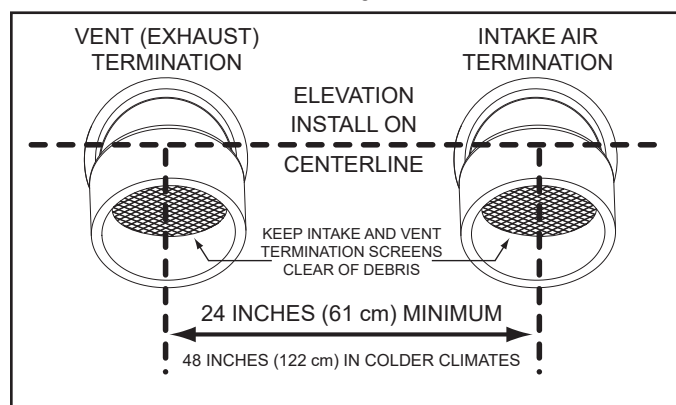

**Figure 34. Sidewall Termination - Direct Vent**
4. If installing both an intake-air and vent termination in a direct-vent configuration through a sidewall, there must be a minimum of 24 in (61 cm) separation, measured on a vertical center line, between the intake-air and vent terminations. See **Figure 34**.
5. If installing both intake-air and vent terminations in a Direct Vent configuration through a sidewall, the intake-air and vent terminations must be installed at the same elevation, measured on horizontal center line. See **Figure 34**.
However, the distance between the closest vent and intake-air terminations must be a minimum of 24 in (61 cm). In colder climates, this separation should be increased to at least 48 in (122 cm). See **Figure 34** (page 35).